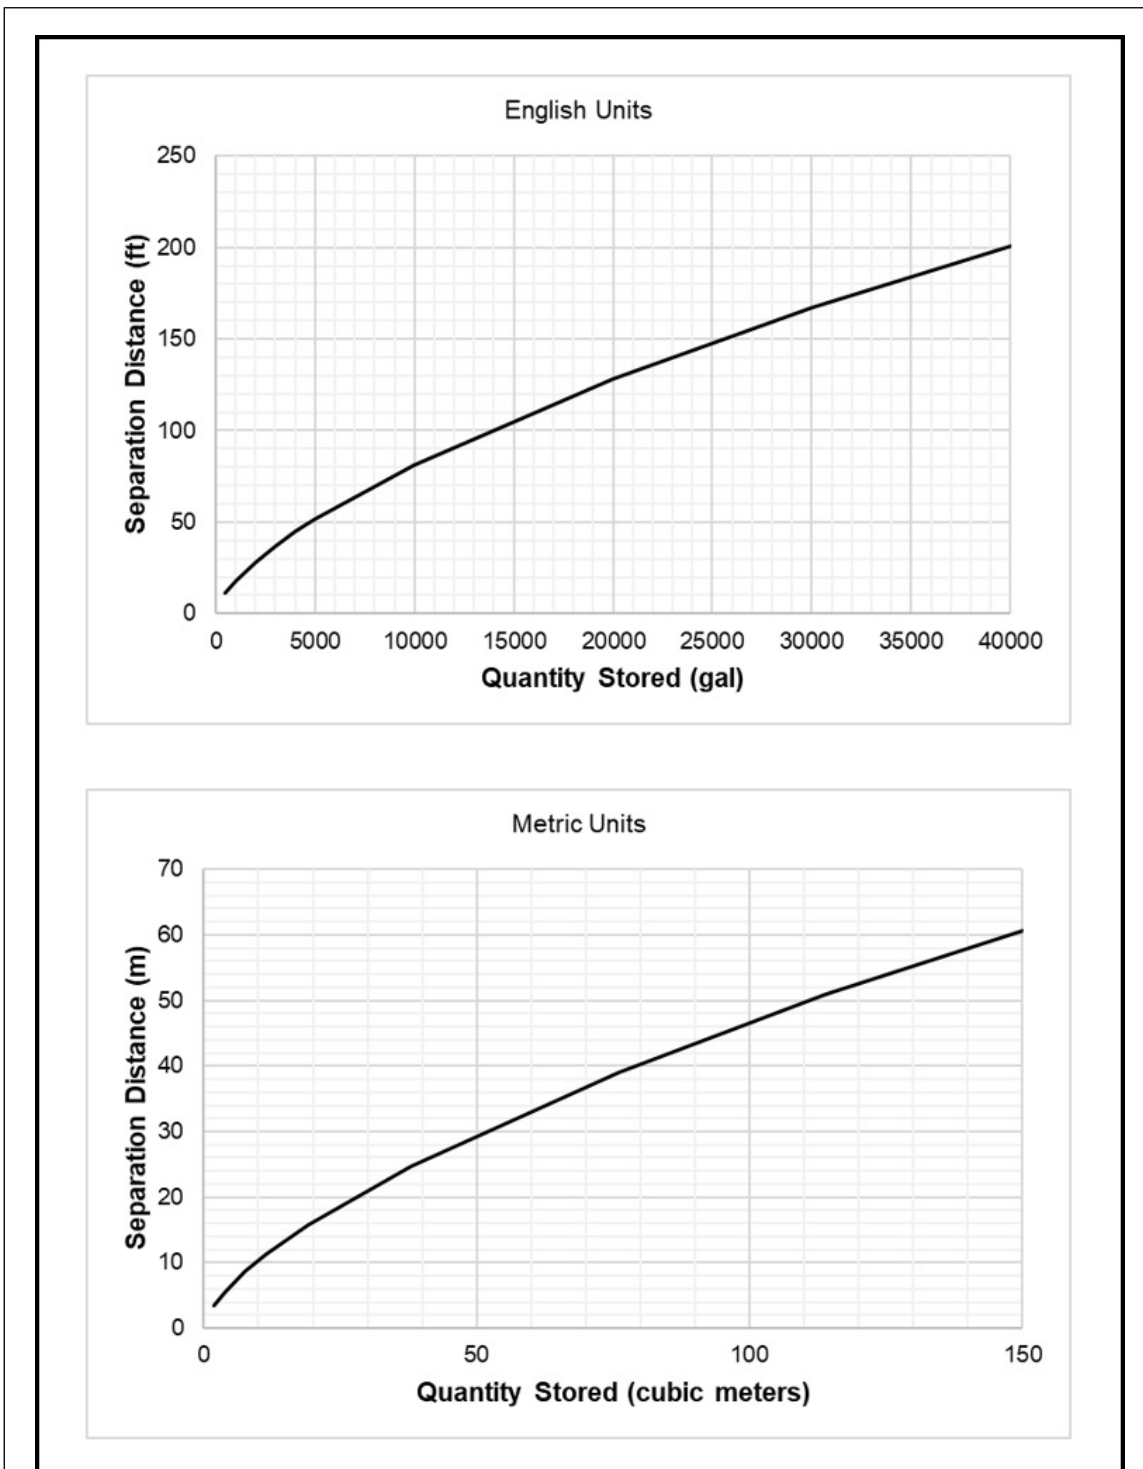

Fig. 6. Minimum separation distances for hydrogen peroxide storage tanks with concentration equal to or greater than 50% in weight
2.11.1.1 Locate hydrogen peroxide storage tanks out of doors for concentrations equal to or greater than 50% in weight, and in accordance with the minimum separation distances indicated in Figure 6. Locate them away from combustible materials, direct heat, and any potential contaminants.